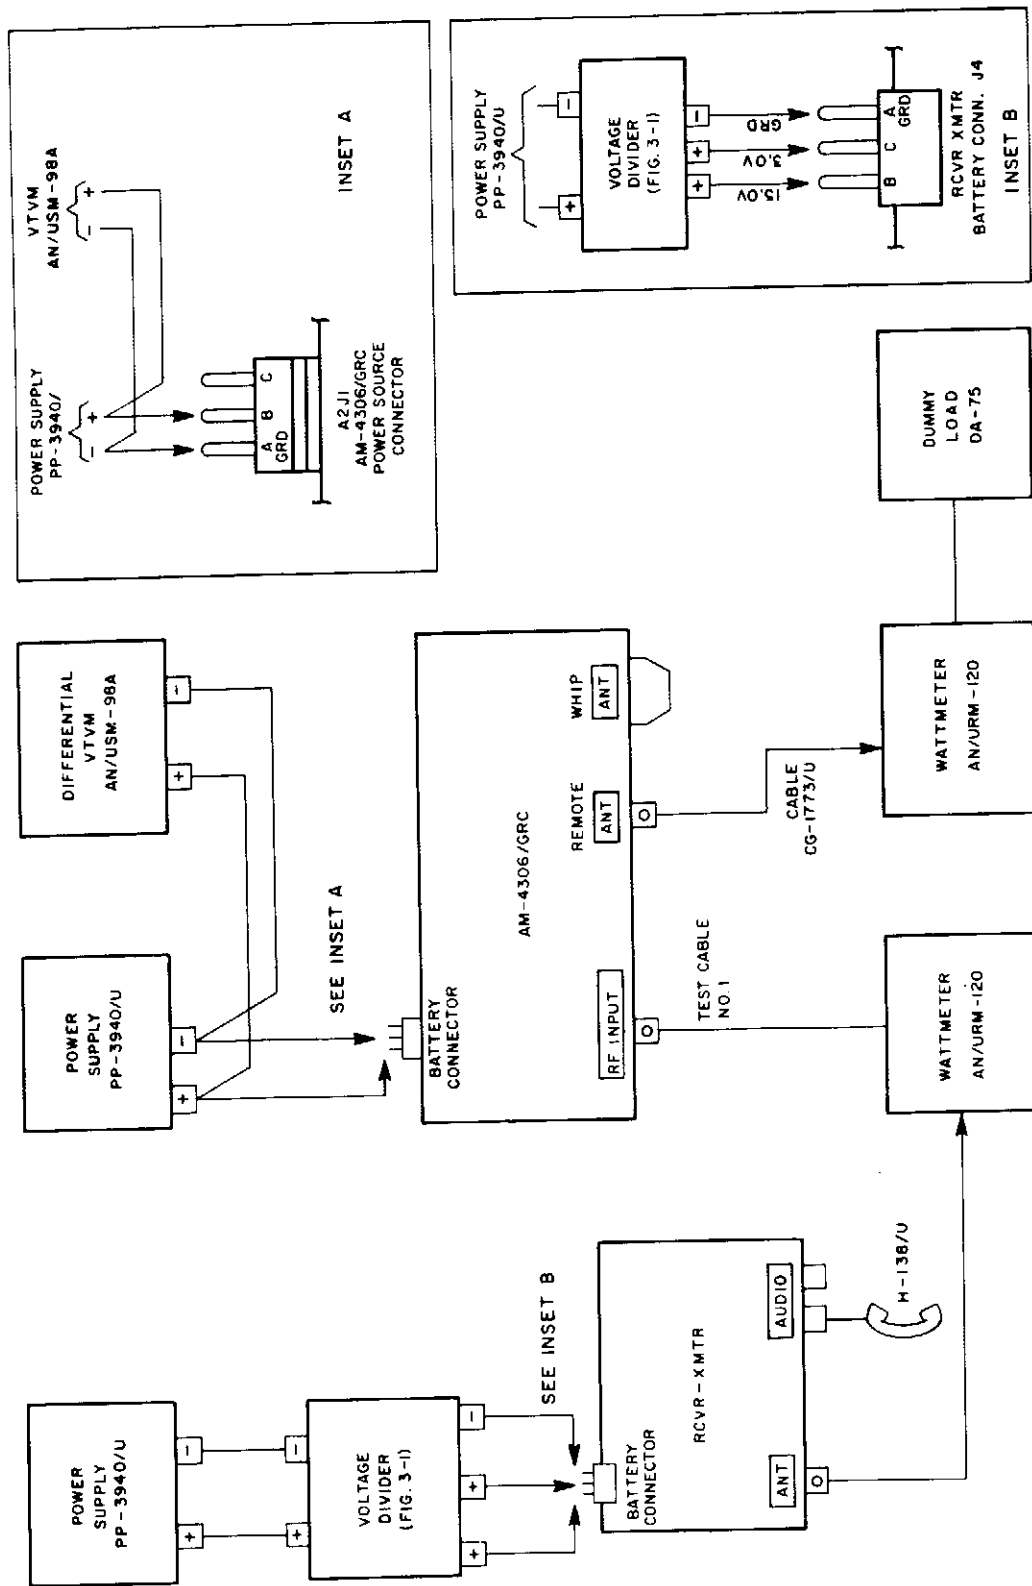

Figure 3-2. Operational test, block diagram
b. Procedure. Check the operation of the equipment as shown in the checklist below in the order given. Set up the test equipment as shown in figure 3-2 and allow it to warm up for 10 minutes. It is important that the receiver-transmitter used as part of the test equipment is known to be serviceable.
Remove test cables No. 2 and No. 3 reconnect A5P3 and/or A5P4. Connect the receiver-transmitter as shown in figure 3-2.